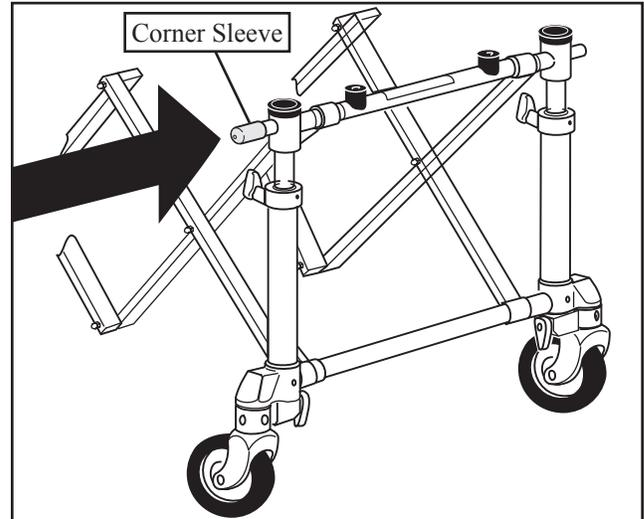

Figure 3 - Slide the Corner Sleeves Onto the Church Truck Crosstubes
5. **On the church truck:** Slide the four corner sleeves that you removed from the drape frame onto the church truck crosstubes (Figure 3).